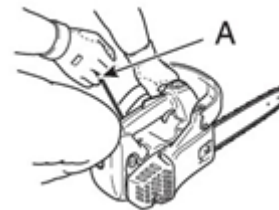

Fig. 6
5. Place the chainsaw on flat ground. Hold the front handle with your left hand and hold the back of the rear handle firmly with your right knee, then pull the starter cord (A) with your right hand (Fig. 6).